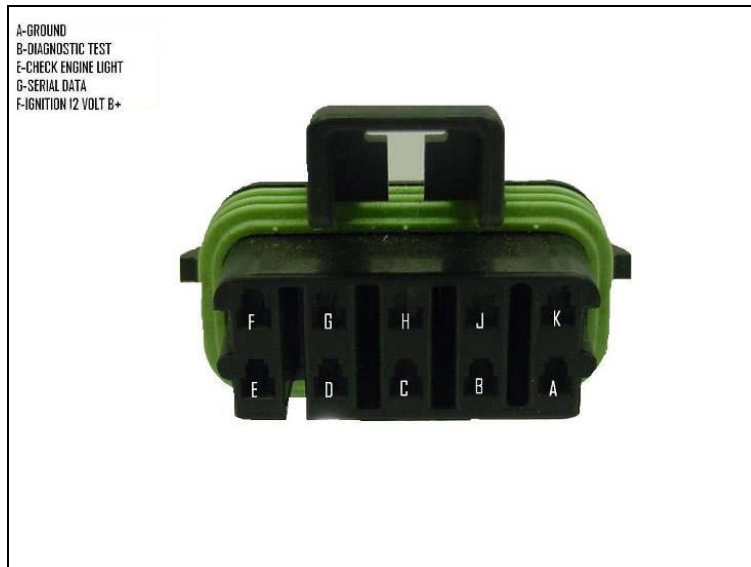

Figure 6.1 Assembly Line Diagnostic Link Connector (ALDL)
7.4.1 In order to retrieve the trouble codes stored in the computer, locate the ALDL plug installed in **Section 6.2**. Turn the ignition on, **BUT DO NOT START THE VEHICLE**. Connect a jumper wire from the ALDL terminal “A” to terminal “B” see **Figure 6.1** and observe the check engine light.